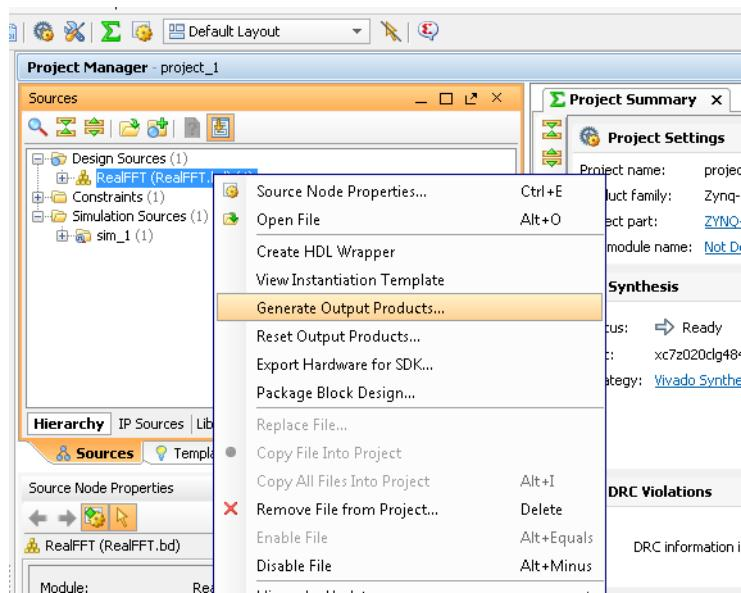

Figure 9-23: Generating Output Products
- In the Sources tab of Project Manager pane (Figure 9-23), right-click **RealFFT.bd** and select **Generate Output Products**.